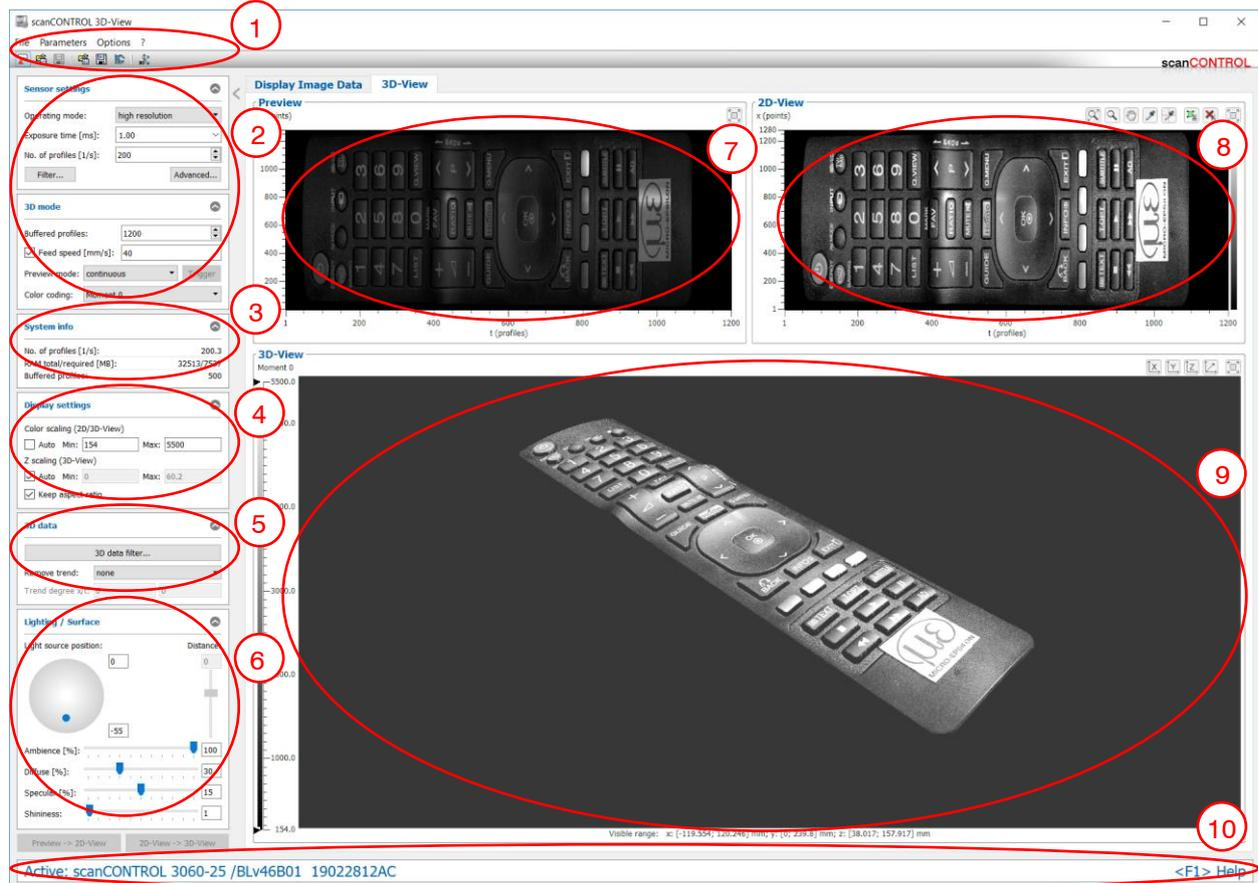

Fig. 3.1: Main view
After you have started the program, the main view of scanCONTROL 3D-View appears (see Fig. 3.1).
In the upper section of the main view you will find the menu bar and the toolbar (see Fig. 3.1, ①) which you can use for activating various dialog boxes of settings and views (see Chapter 3.20).
In the upper left section of the main view (see Fig. 3.1 ②), depending on the operation mode (online/offline mode), you can either change settings on the scanCONTROL measurement system, or visualize previously saved profile sequences (refer also to Chapter 3.5 or 3.6). Below the "3D mode" box there is an information field ③, in which the current system status is shown (see Chapter 5.3). In the lower left section you configure the settings for the display (refer also to Chapter 3.9). In section ⑤ you can change the settings for filtering the 3D data and for removing a trend (see Chapter 3.10). Section ⑥ contains the settings for the lighting and surface properties of the 3D display (see Chapter 3.11). In the right section there are the preview window ⑦ (see Chapter 3.9), the 2D-View ⑧ (see Chapter 3.14) and the 3D-View ⑨ (see Chapter 3.15).
In the lower section of the main view there is the status line (see Fig. 3.1, ⑩). Status and error messages are displayed. For a complete list of the possible messages please refer to Chapter 5.3.